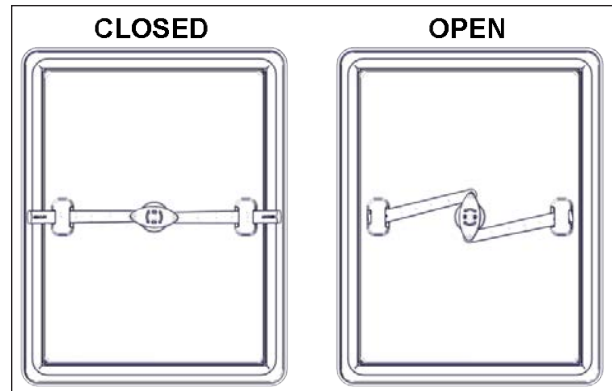

FIGURE 19: ESCAPE HATCH LOCKING MECHANISM
3. On the escape hatch, check if the release mechanism is working well. Make sure that the hatch arms are retracted when open and non-retracted when closed, see Figure 19.